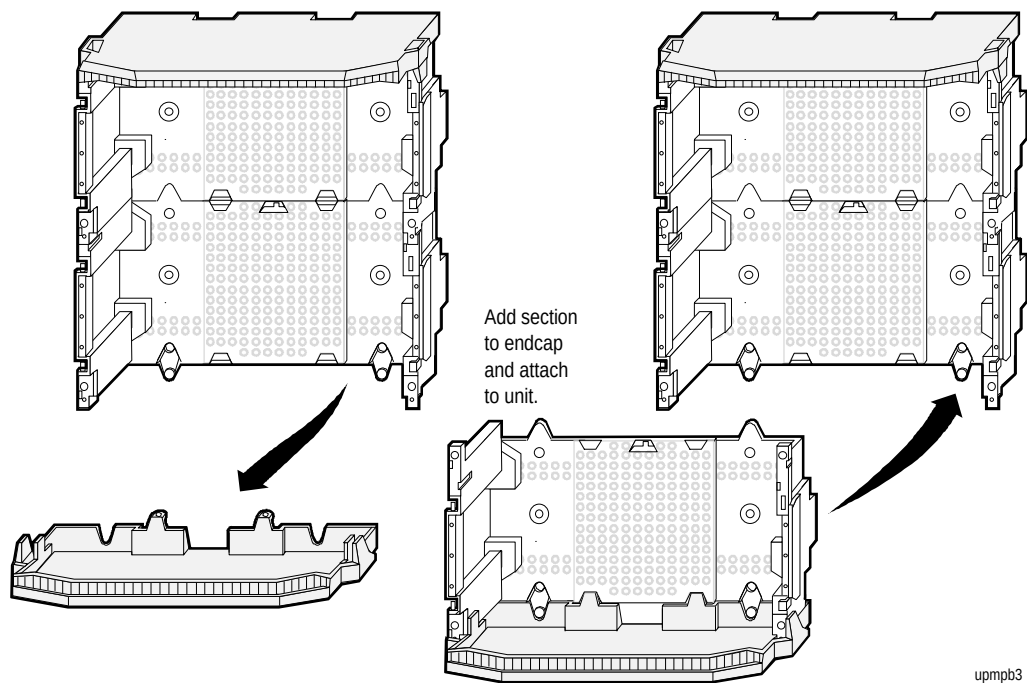

Figure 14: Expanding the Package
Refer to Figure 14 and follow the steps below when installing expansion units.
3. Pull out the key with the lock plug still attached. Rotate it 180° as illustrated in Figure 14. Reinsert the plug.